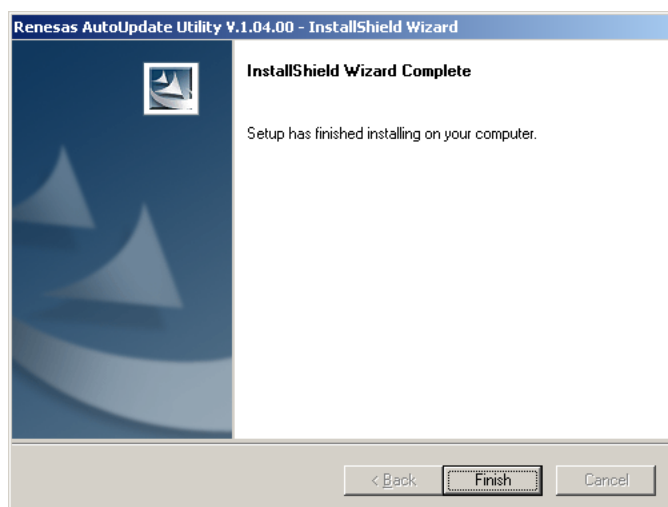

Figure 3.2.6 E10A-USB Software Installation Procedure (6/7)
(6) Following window as Figure 3.2.6 will appear after the installation is completed. Click "Finish".